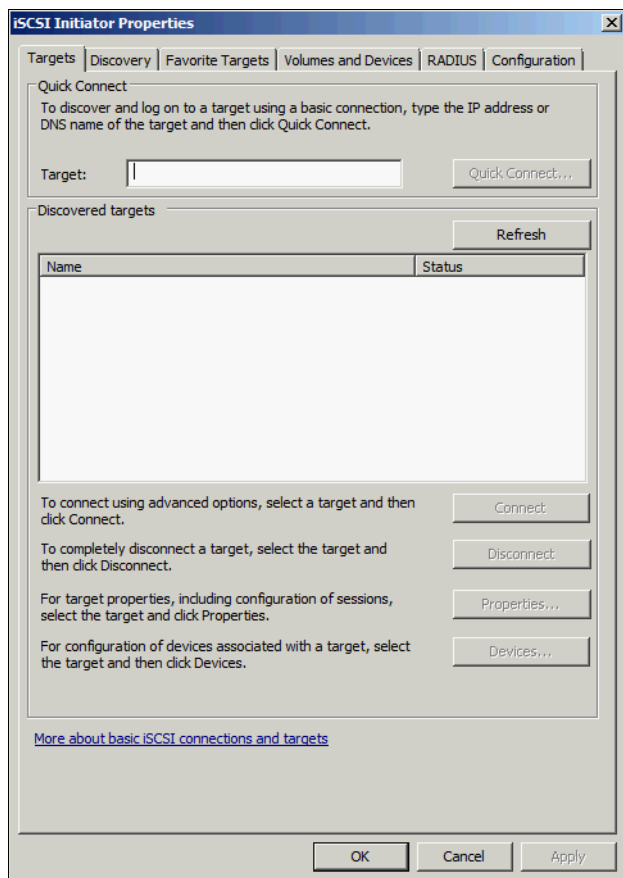

Figure 12-12 Windows iSCSI Configuration tab
2. Log on to your Windows 2008 host and click **Start** → **Administrative Tools** → **iSCSI Initiator** to open the iSCSI Configuration tab (Figure 12-12 on page 482).